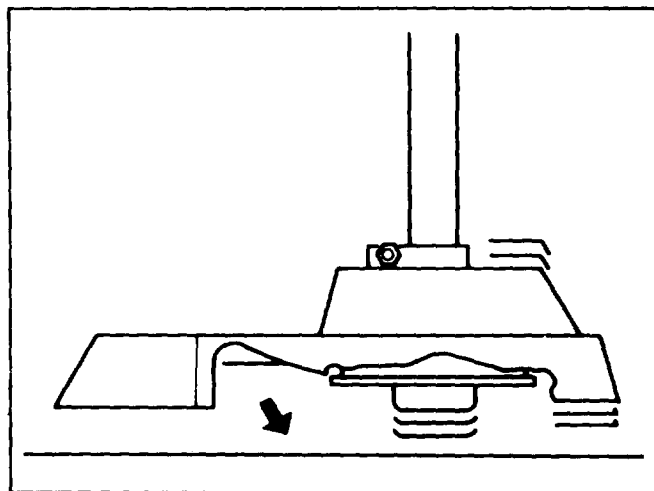

Figure 8
LENGTHENING CUTTING LINE (Fig. 8)
1. To lengthen line, firmly tap spool on the ground while the engine continues to run at normal cutting RPM (Fig. 8). The line will be fed from the spool